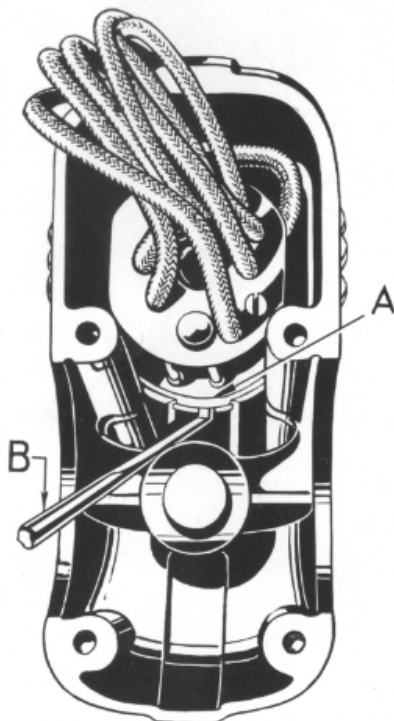

Figure 23
46. Remove four screws (83) from column bracket cap (82).
47. Remove cutout switch (86). See operations 43 and 44.
48. Pry out switch base lock ring (17) and withdraw base (5), rotor (18), spring (19). (See Figure 23.)